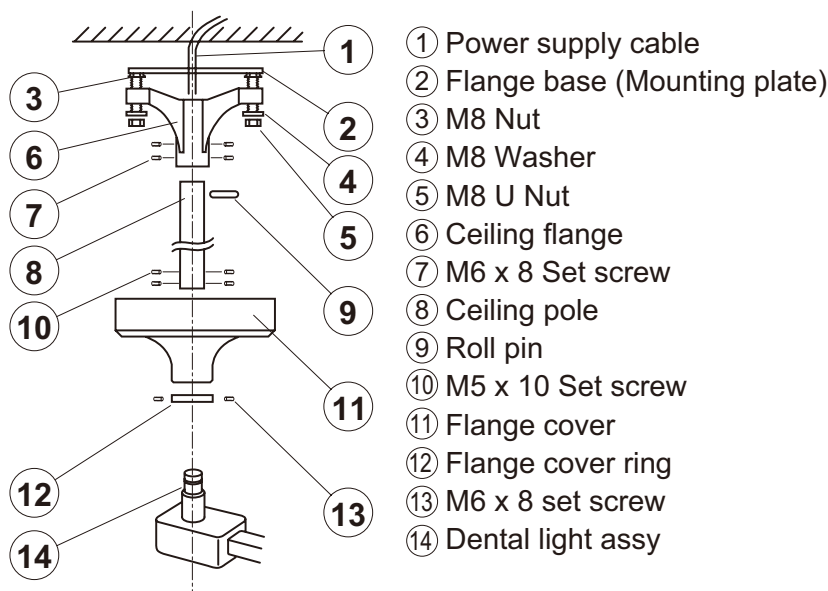

Fig.8
- (2) Install the leveling nuts (M8) between the flange base and the ceiling flange. Install the ceiling flange to the flange base with washers (M8) and nuts (M8) supplied.
- (3) Insert the ceiling pole into the ceiling flange and secure it with roll pin and set screws (M6 x 8) supplied.
- (4) Be sure the ceiling pole is plumb. Adjust vertical level of the ceiling pole with leveling nuts(M8).
- (5) Slide the flange cover and flange cover ring (flat side up) over the ceiling pole and secure them about half way up the pole. Use only one set screw as you will be moving this on final installation.
- (6) Install the light assembly to the ceiling pole running the 3 wire cord up through the pole to the ceiling flange. Secure it with 4 Allen set screws.
- (7) Connect the incoming power to the 3 wire cord from the light assembly. Be sure to follow the local electrical codes.
- (8) Reposition the flange cover and secure it with the flange cover ring - Secure all set screws.
* Refer to **Fig.8** for each components.
- (1) Pass the light cables through the extension. Fix the extension to the balance arm with M5 x 10 cap bolts.